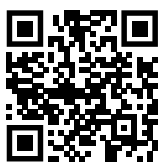

Fig. 156
- ▶ Open Liebherr SmartMonitoring Dashboard. (see Fig. 156)